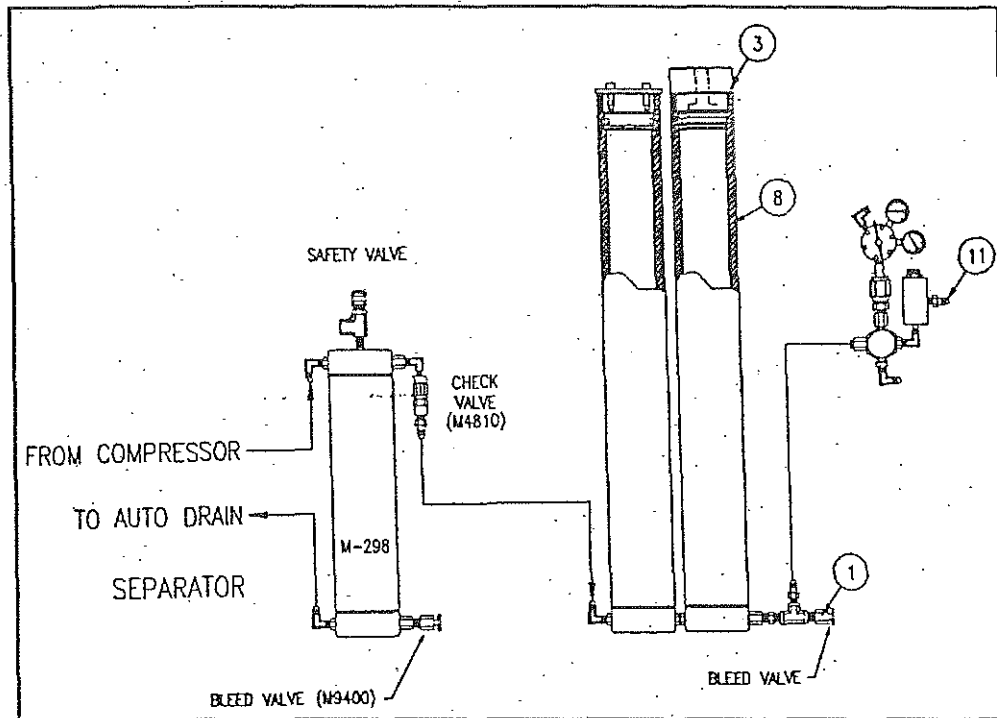

FIGURE 5-17 FINAL PURIFICATION CHAMBER TOP PLUG INSTALLATION
20. Install top plug (3) on filter tube (8) and reconnect cartridge monitor wires if optional CMS system is implemented (see Figure 5-17).